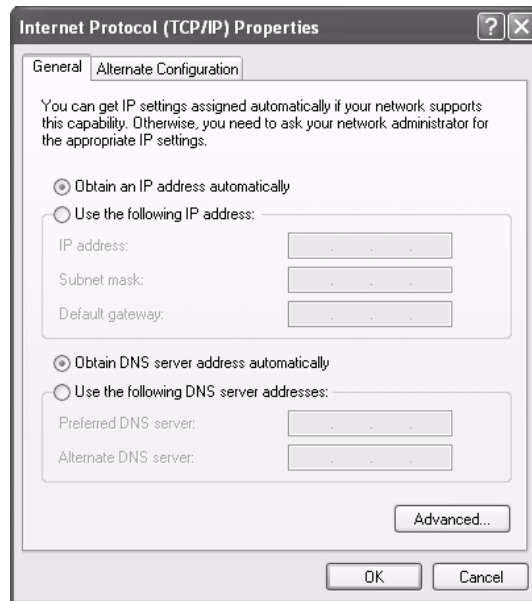

Figure 65: Internet Protocol Properties - Windows 2000
6. Click **Properties**. The Internet Protocol Properties window appears as shown in Figure 65.